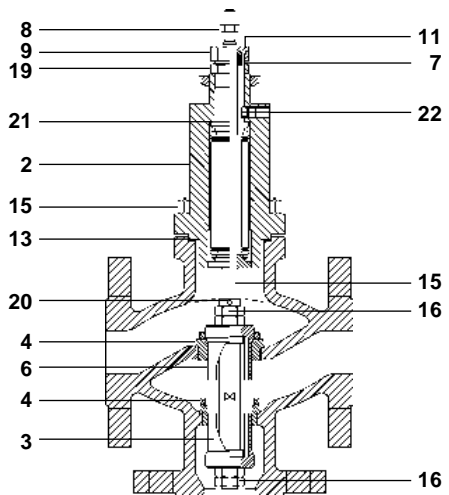

Fig. 10 Diverting Valve
4.3.3 Procedure for renewing valve plug, seats and bellows assembly on diverting valves (Refer to Figure 10)